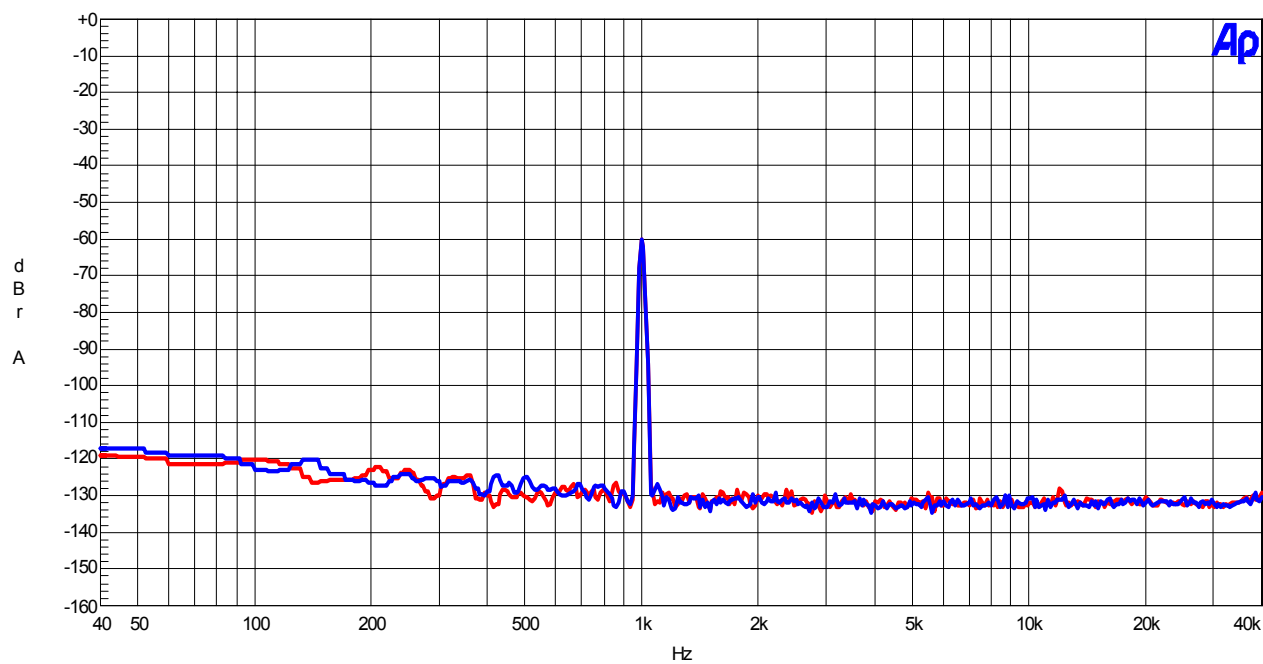

Figure14. FFT (1kHz, -60dBFS input)
- Figure14. FFT (1kHz, -60dBFS input)